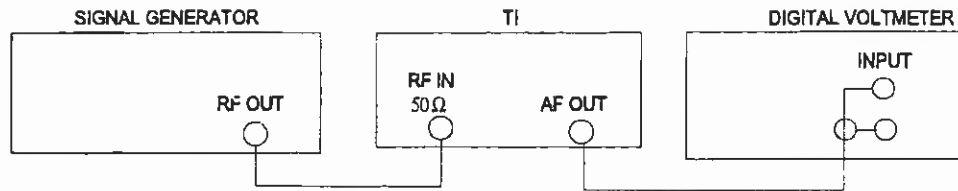

Figure 1.
4.2.1 Connect equipment as shown in Figure 1.